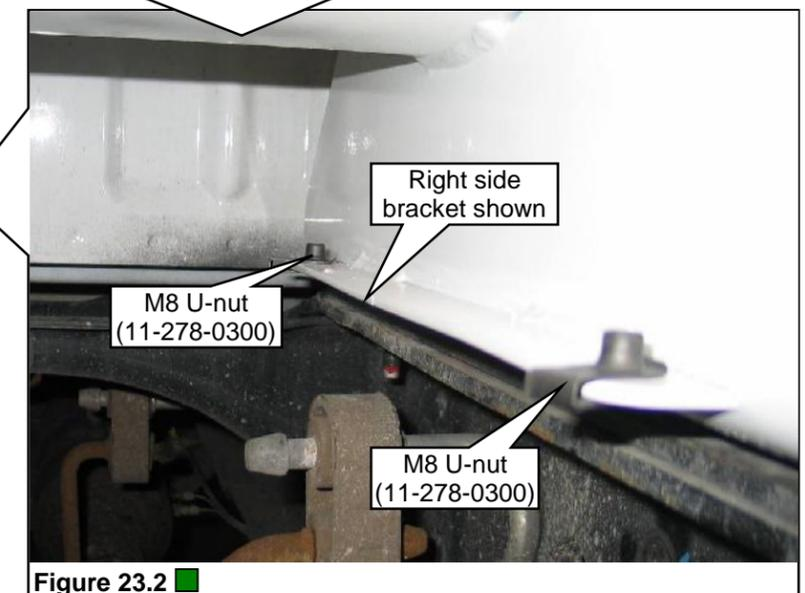

Figure 23.2 ■
- From underneath or as needed, install four M8 U-nuts (J-clips), one each at the four heat shield mounting holes at the inner edge of the tank mounting brackets. **Figure 23.2.**